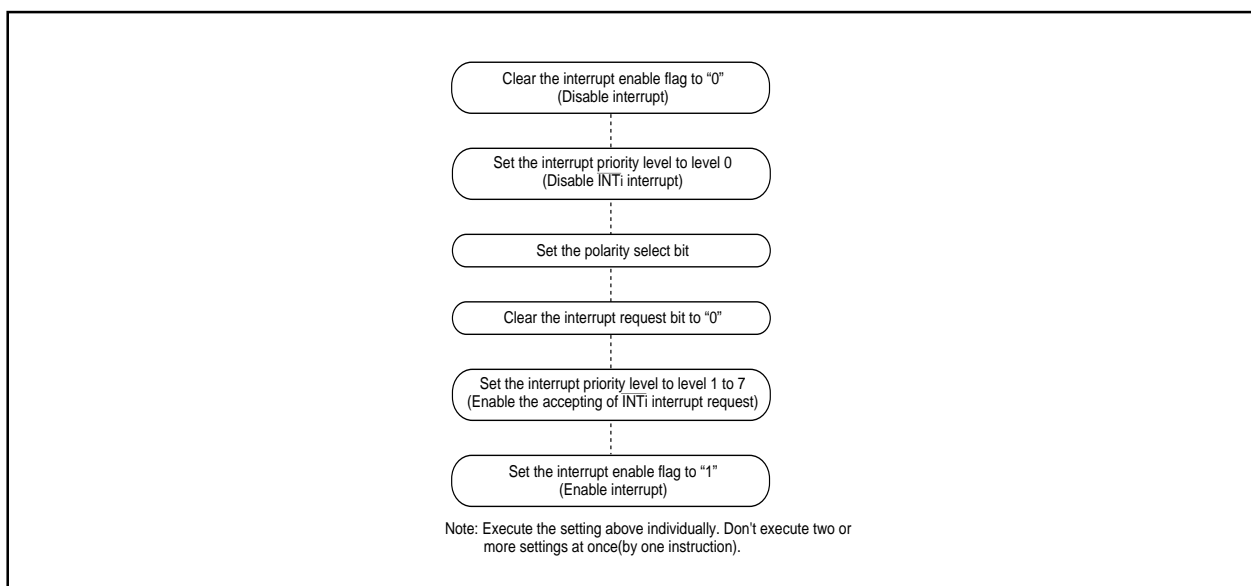

Figure 1.11.13. Switching condition of INT interrupt request
(3) The $\overline{\text{NMI}}$ interrupt
(4) External interrupt
- When the polarity of the $\overline{\text{INT0}}$ to $\overline{\text{INT5}}$ pins is changed, the interrupt request bit is sometimes set to "1". After changing the polarity, set the interrupt request bit to "0". Figure 1.11.13 shows the procedure for changing the $\overline{\text{INT}}$ interrupt generate factor.